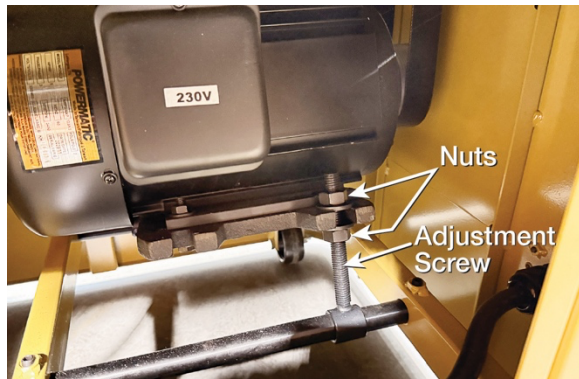

Figure 9-1: Belt Tensioning
Refer to Figure 9-1.
Refer to Figure 9-1 and 9-2.
2. If the straightedge does not lie flat on both pulley faces, open the rear panel, and loosen the four hex nuts on the motor plate (see Figure 9-1) with a 19mm wrench.